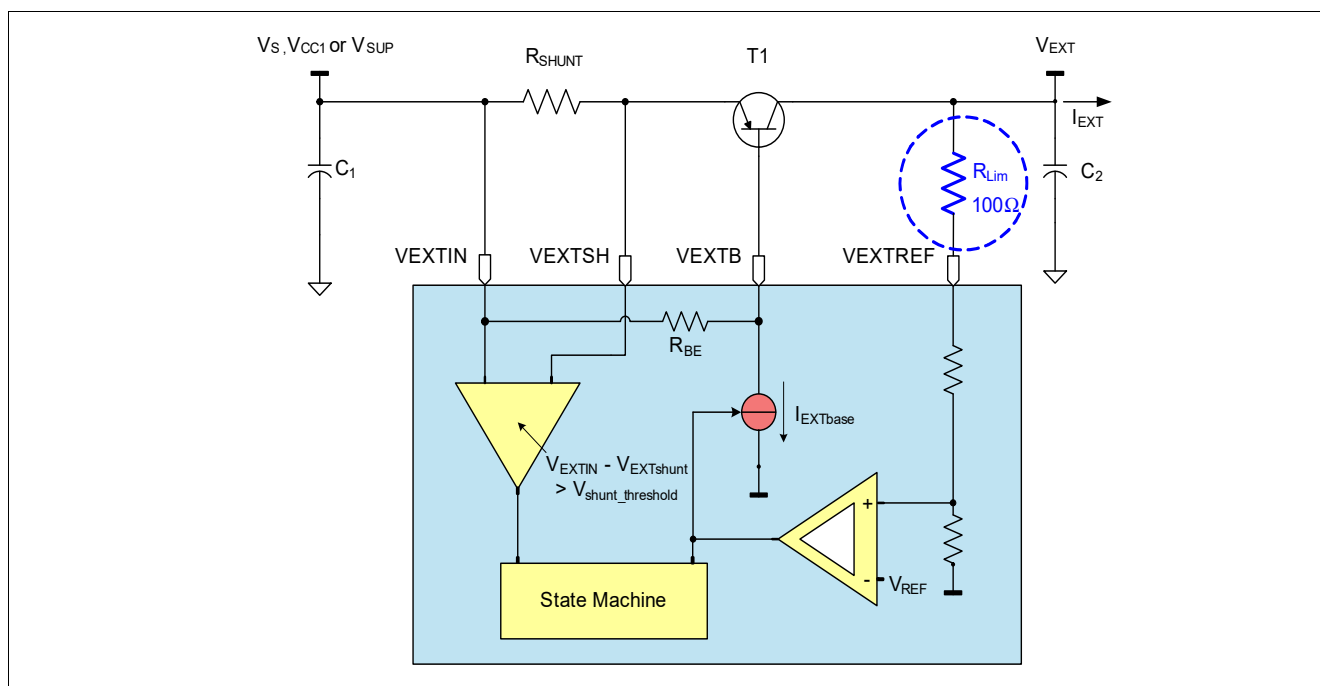

Figure 16 VEXT Hardware Setup
*Note: If the VEXT output voltage is supplying external off-board loads, the application must consider the series resonance circuit built by cable inductance and decoupling capacitor at load. Sufficient damping must be provided(e.g. series resistor with capacitor directly at device or 100 Ω Resistor between PNP collector and VEXTREF with 10 μF cap on collector (see **Figure 16**).*
**Figure 16** shows the hardware set up used.